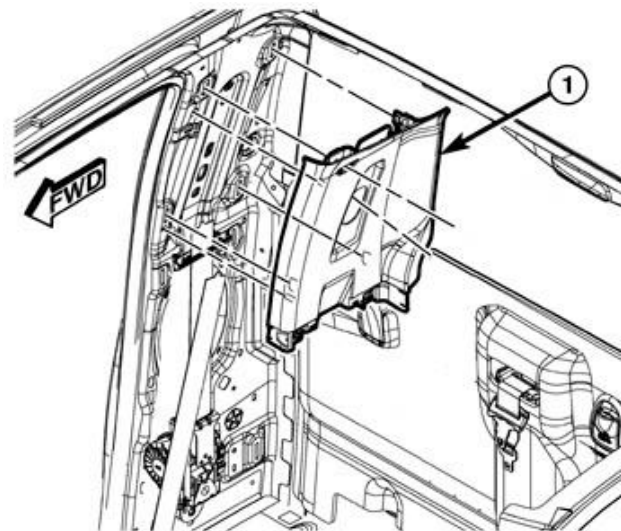

Figure 6 – B-Pillar Upper Trim Panel
8. Release the retaining clips and remove the B-pillar upper trim panel (1) (Figure 6).